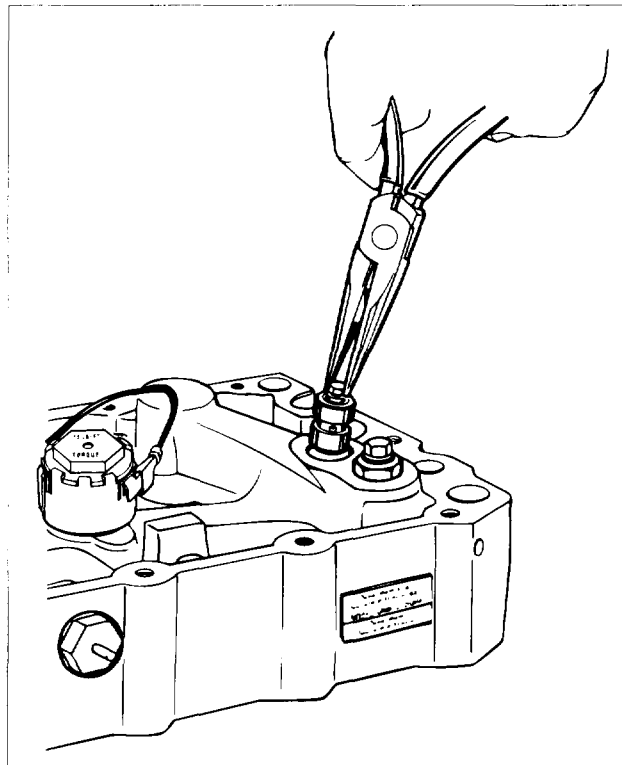

FIG. 15
4. Using needle-nose pliers, remove the control valve (Fig. 15).